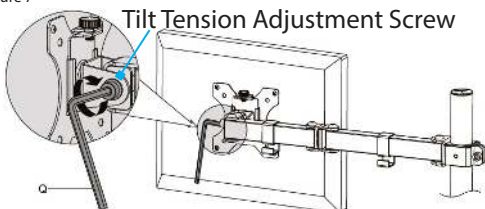

Figure 8
3. Insert one **VESA Mount Knob (M)** through the hole in the **VESA Attachment Tab** and into the **VESA Mount Attachment Point** and tighten, by hand, until hand tight. (Figure 8)